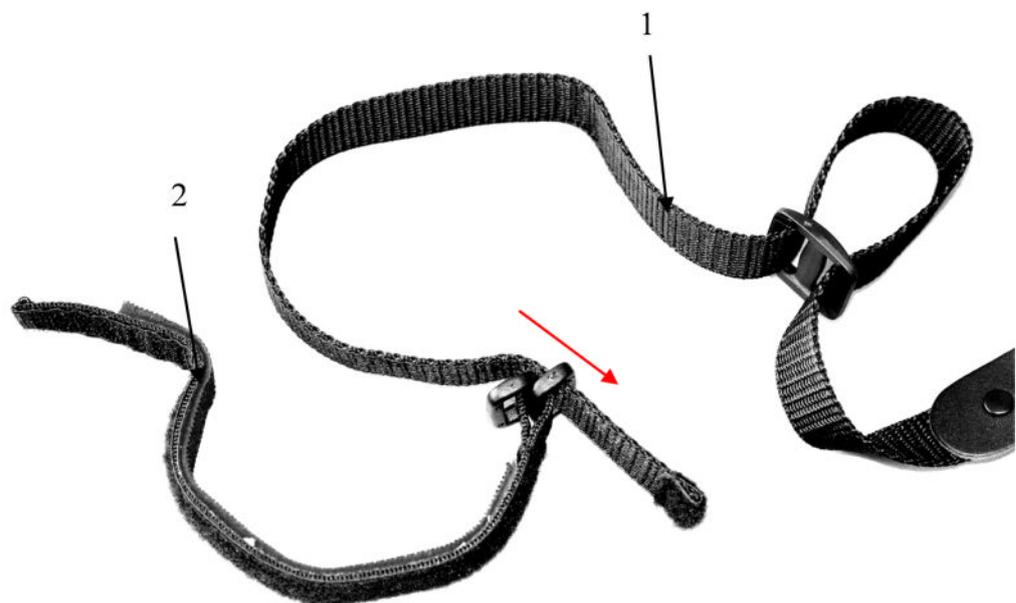
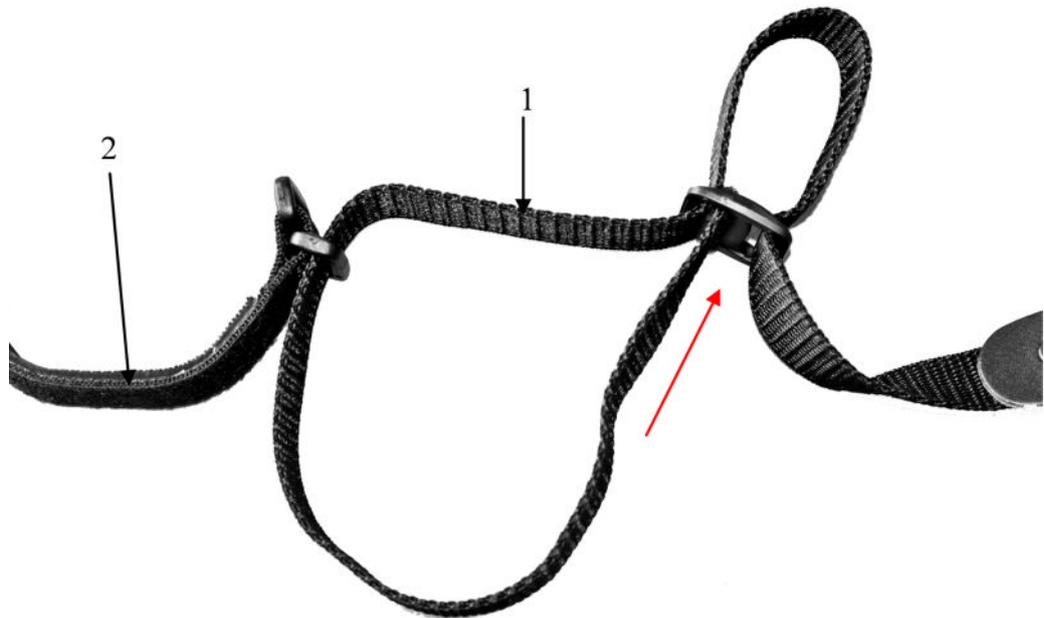

Fig. 2-3: Attaching the fastening strap, step 2.
Fig. 2-4: Attaching the fastening strap, step 3.
- Attach the two fastening straps to the belt as shown in figure 2-2, figure 2-3 and figure 2-4.